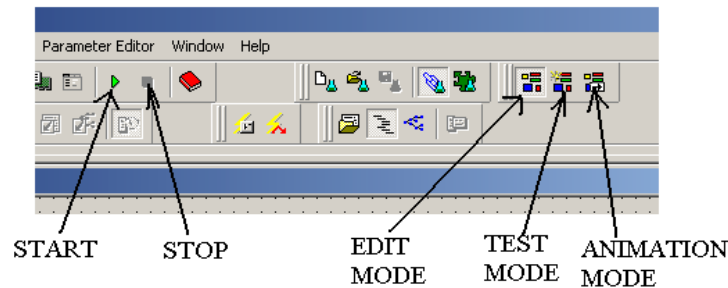

Figure 2.17: Execution and Animation Control Toolbar
- To start and stop the DSP you can use the icons in the Platform Management toolbar (see Fig. 2.17).
- Edit mode toolbar contains edit, test or animation icons. Refer Fig. 2.17 for edit, test and